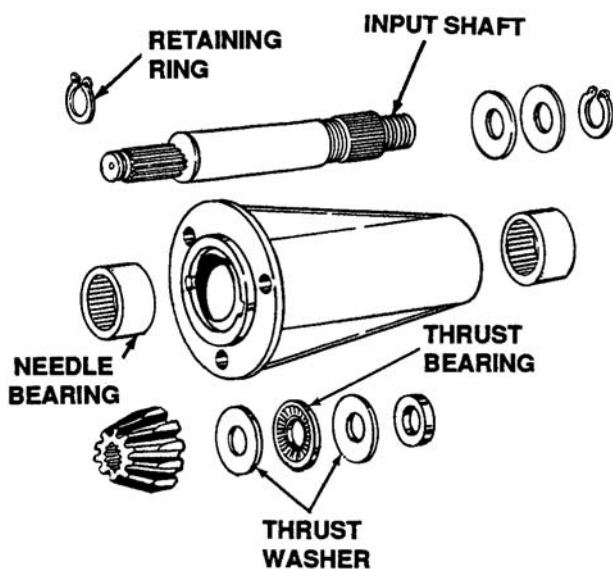

Figure 5-3. Disassembly of Input Shaft
2. Disassemble the input shaft assembly by removing the two retaining rings on each end of the input shaft. See Figure 5-3.